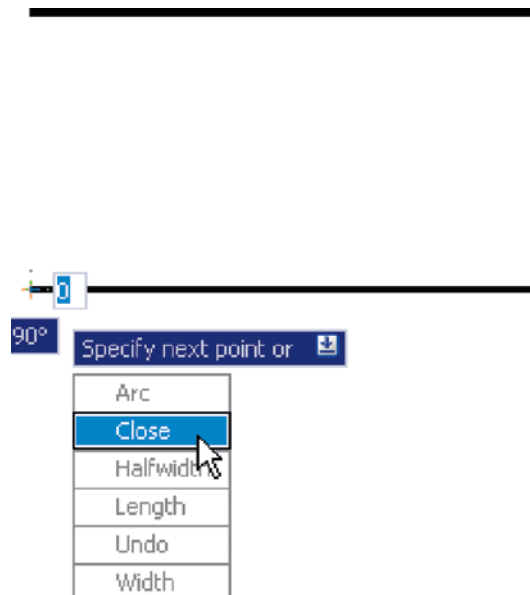

Fig. 3.32 Dynamic Input – first example – Polyline – selecting **Close** from the pop-up menu
8. Press the **down** key of the keyboard and *click* **Close** in the menu (Fig. 3.32). The rectangle completes.